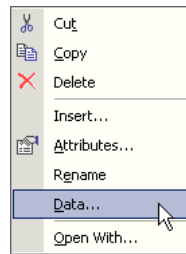

Figure 6.19: A right-mouse pop-up menu
- ▶ select the **Data...** command in the right-mouse pop-up menu (see Figure 6.19).